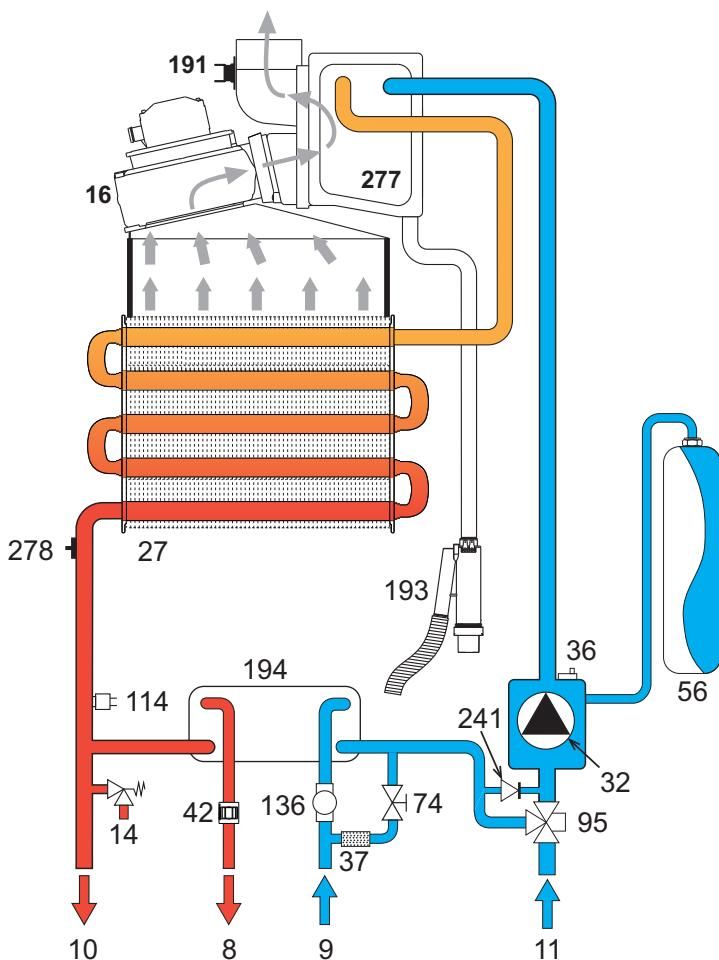

fig. 27- Heating circuit
**5. TECHNICAL DATA AND CHARACTERISTICS****Table. 11- Legend, fig. 26, fig. 27 and fig. 28**